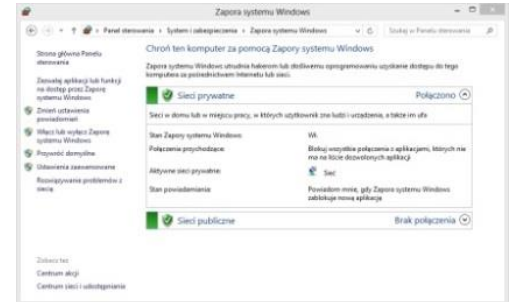

Fig. 23 Firewall settings window for Windows 7/8
2. Click on the "Windows firewall" icon (Fig. 23)